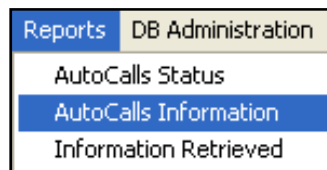

Fig. 9.4
- 1) Select the **Reports** menu and then select **Autocalls Information** (Fig. 9.4).